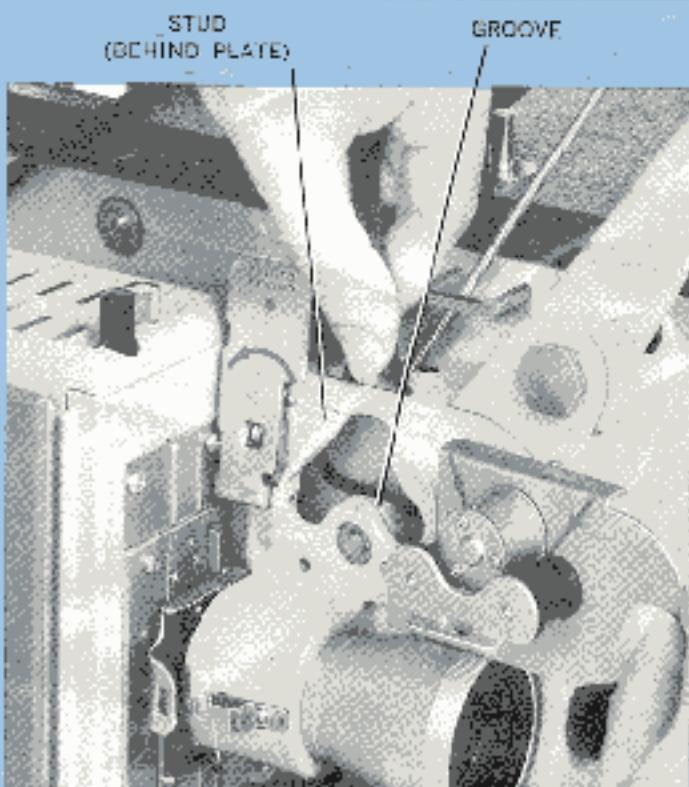

FIGURE 17
**Take-Up Belt**—If possible, this belt should be replaced by a service representative. If such service is unavailable, use the following procedure carefully. Remove the two upper sprocket-plate retaining screws and the spacer that is located behind the retaining screw nearest the front of the projector. Lift off the upper sprocket and plate assembly. Remove the old belt. Hold the new belt as shown in Figure 17, and push the looped end of the belt into the opening in the mechanism. Make sure that the stub is inside the loop. Continue to push the belt downward until the looped end is in the groove next to the sprocket drive gear. The belt should be flat in the groove. With the belt in this position, replace the upper sprocket and plate assembly, holding it firmly in a downward direction to engage the gears until the retaining screws are tight.